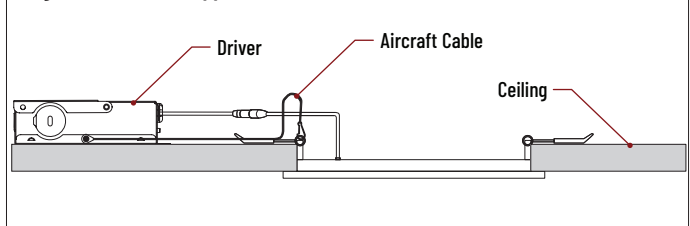

Figure 6
7. Connect the remote driver box to the fixture by inserting and twisting the male / female connectors. (Figure 6)